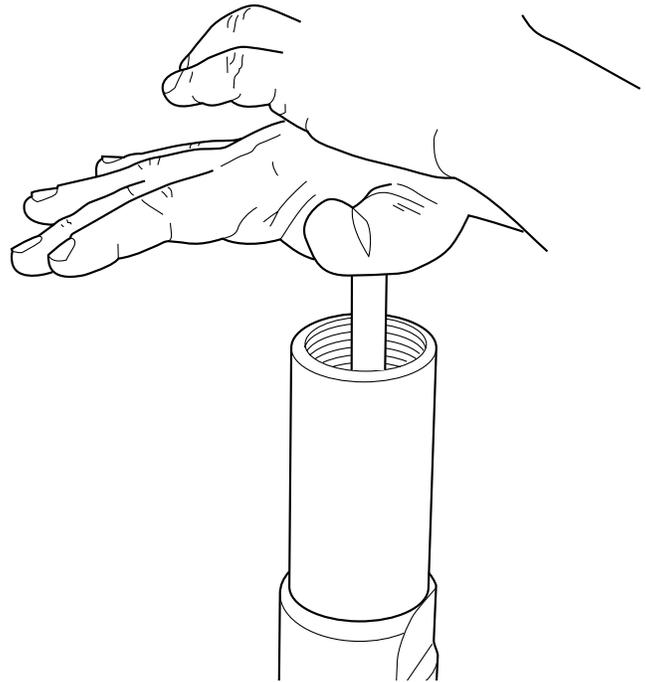

Figure 10. Force Plunger Down
- h.** Flip the body over and continue to force the spring plunger downward so that the O-ring seals are fully engaged in the bore. Most or all of the trapped air should be now be evacuated (See Figure 10).